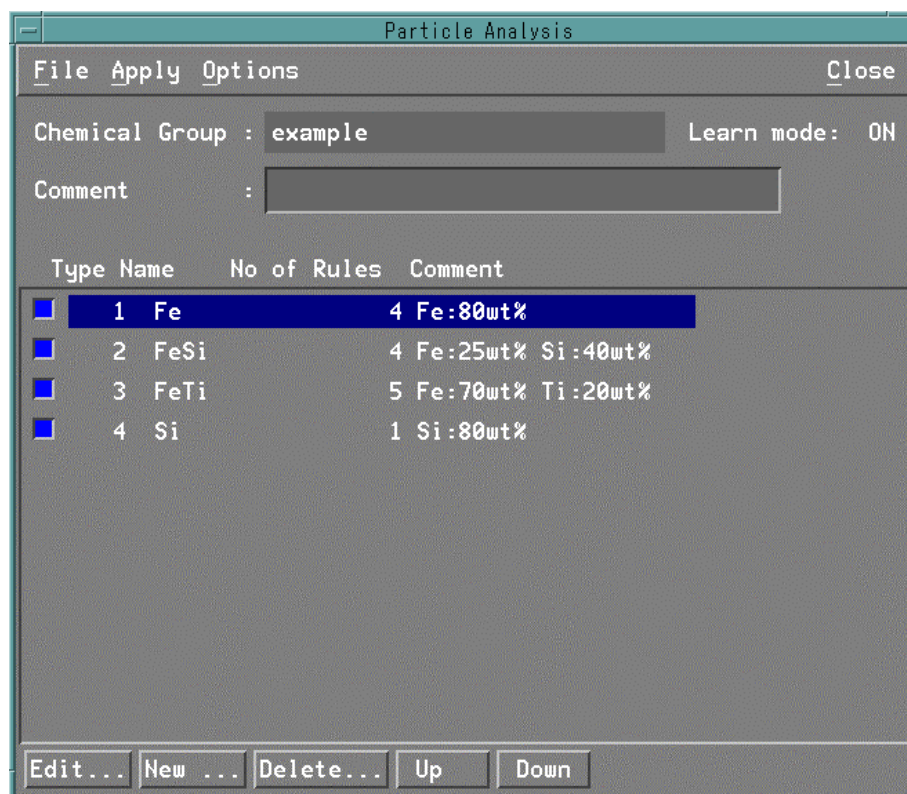
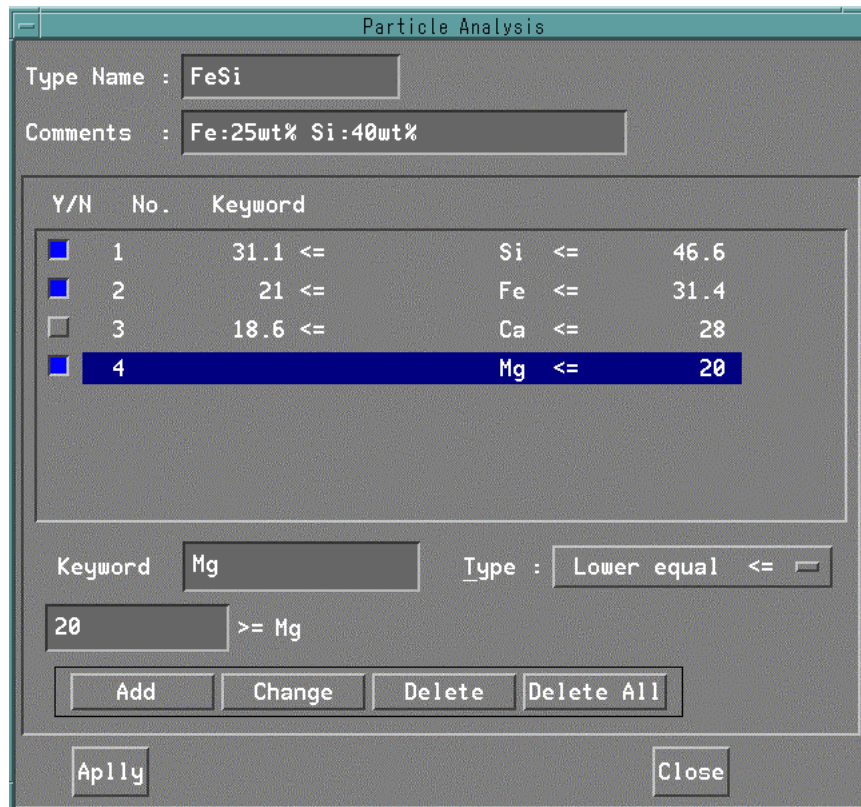
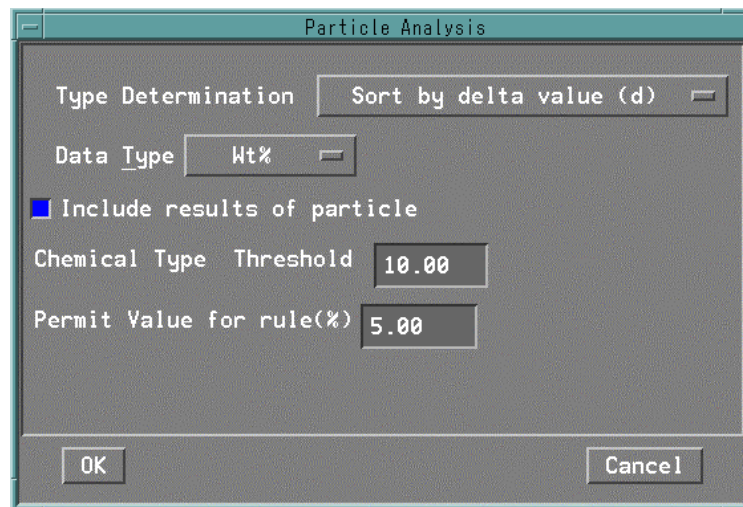

Fig. 8.17 “Chemical Type” window
Fig. 8.18 “Chemical Type Edit” window
Fig. 8.19 “Chemical Type Configure” window
Click on the “Chemical Type” button in the “Particle Analysis Condition Input” window shown in Fig. 8.2, and the “Chemical Type” window will be displayed as shown in Fig. 8.17.
- “File” menu: Clicking on the “File” menu in the “Chemical Type” window shown in Fig. 8.17 will display a menu. You can specify or store chemical type groups.
- “Apply” menu: Clicking on “Apply” in the “Chemical Type” window shown in Fig. 8.17 will display a menu.
“Options” menu:	Clicking on “Options” in the “Chemical Type” window shown in Fig. 8.17 will display a menu. You can change the chemical type determination parameters.
Click on “Edit. . .” or “New. . .” in the “Chemical Type” window shown in Fig. 8.17 and the “Chemical Type Edit” window will be displayed as shown in Fig. 8.18.
Click on the “Options” button in the “Chemical Type” window shown in Fig. 8.17 and a menu will be displayed. Then, click on “Configure. . .” in the displayed menu and the “Chemical Type Configure” window will be displayed as shown in Fig. 8.19.
- Chemical Type Threshold:** Allows you to specify the threshold to use to determine chemical types. The sum of the difference of each chemical type is calculated and the calculated value that is smaller than the value specified here (for example, 10.0 in Fig. 8.19) is judged to be the chemical type.
Compare the analysis results (such as element name and particle measurement item) and the keywords registered as the rule conditions for each chemical type. Execute chemical type determination only when the keywords coincide with the chemical structure. For rule judgment, compare the numeric-value data of the analysis results (i.e. concentration) and the rule condition. If the concentration is within the range of the rule condition value, enter 0, and if the concentration is outside the range of the rule condition value, calculate the difference between the chemical structure and the rule condition value. Carry out this operation for all the rules registered for each chemical type and add the difference for each chemical type. After obtaining the sum of the differences, compare it with the value specified in “Chemical Type Threshold” shown in Fig. 8.19. If the sum of the differences is below the threshold value, it is determined to be the chemical type.